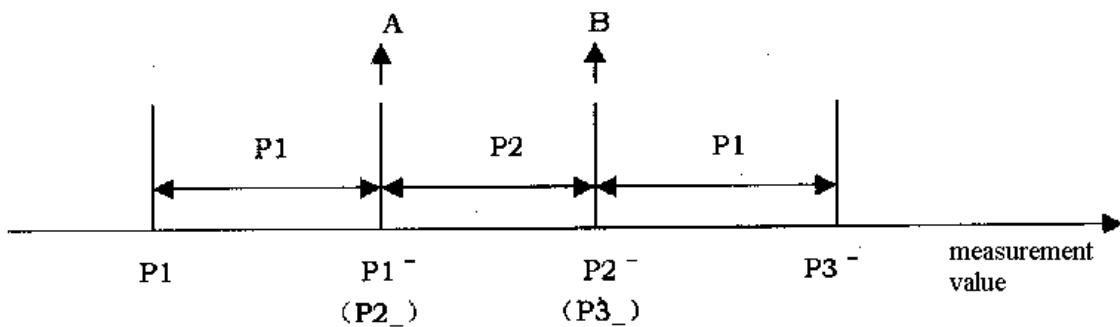

Figure 2-8 Sequential Mode
**Sequential Mode:** The sequential mode specifies bin limits as the actual measurement value. The limits must be set in order from the smallest value to the largest value. There can be openings and duplications between the bin limits. (Refer to Figure 2-8.)